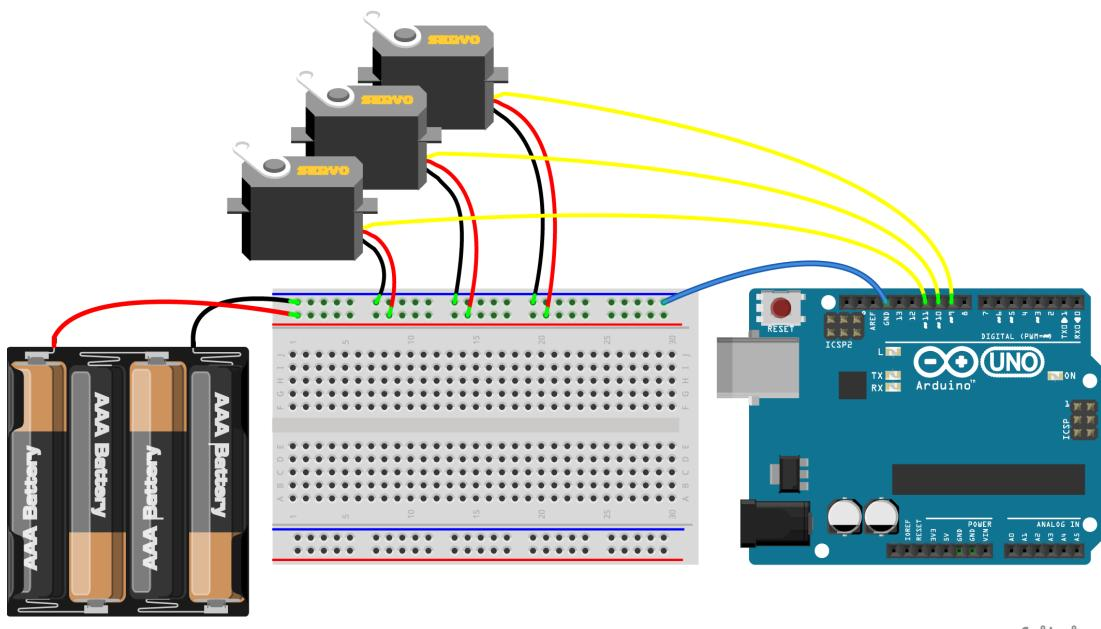

Figure 13-16 Wiring diagram
13. The wiring is relatively simple. In Figure 13-16, I use a breadboard, but it's almost overkill because you're really only using the power strip. You can connect the power and ground however you like, including using small wire